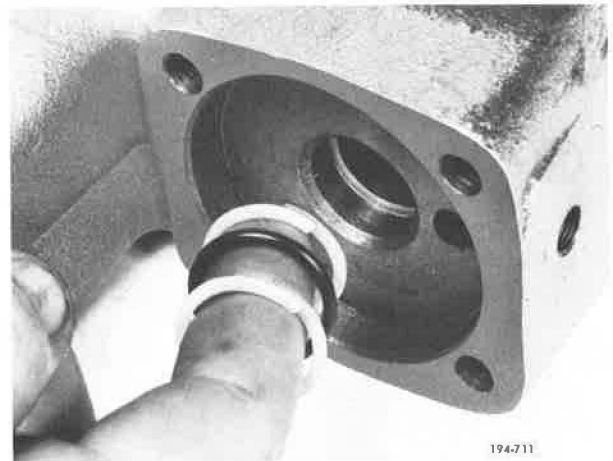

Figure 5-346. Removing O-ring and Teflon Rings
23. Remove o-ring and two Teflon rings from both the reverse opening and the Lo/Direct opening of the shift cover. See Figure 5-346.